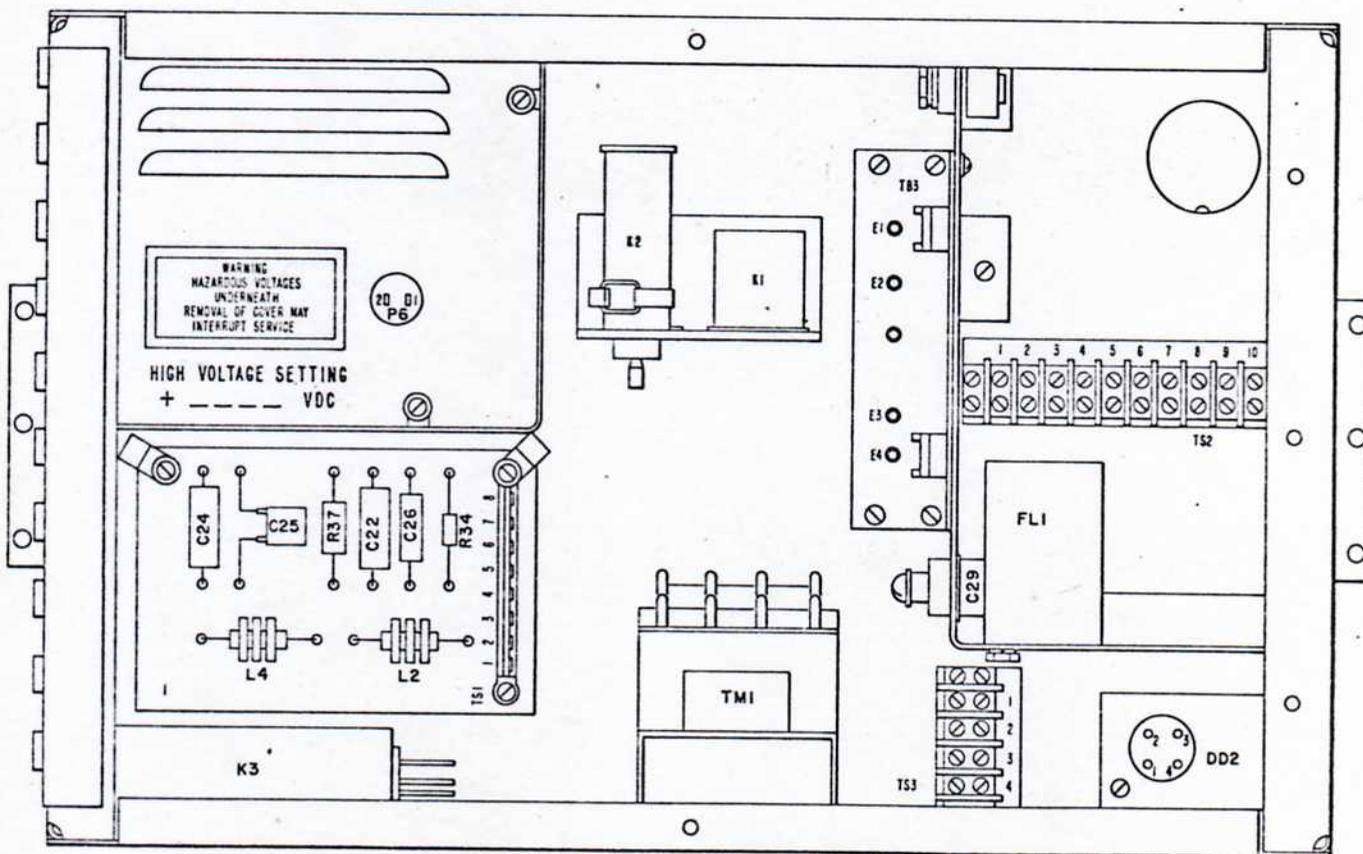

Fig. 5—Electrical Equipment Cabinet—Cover Open
1.02 This section is reissued to change list numbers in 1.04, operating voltages in 1.05, test procedure in 4.02(2)(a) and (b), to add Part 7, Fig. 5, 7, and 8, and to revise Fig. 9 and 10.
(a) Connect the hot lead to TS2 terminal 1. See Fig. 5 for location of terminals in the electrical equipment cabinet. Connect the common lead to the chassis. If the voltage is 21 to 28 volts, the proper power is reaching the detector output.